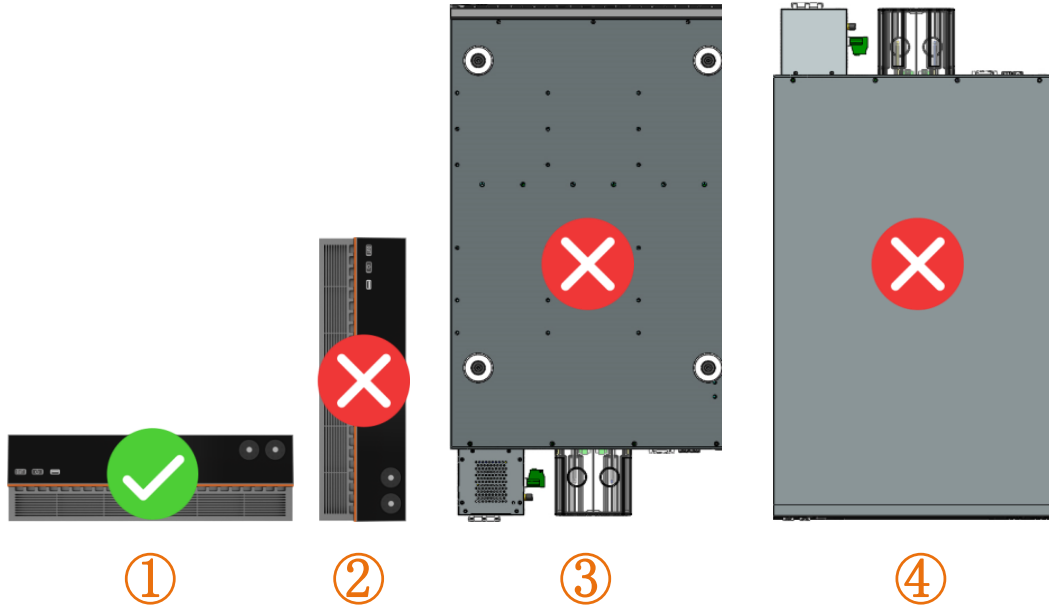

Figure 112 Product Placement Diagram
As Figure 112 shown ① position is the only correct placement for the product, no other placement is allowed, and it cannot be used for floor-standing.